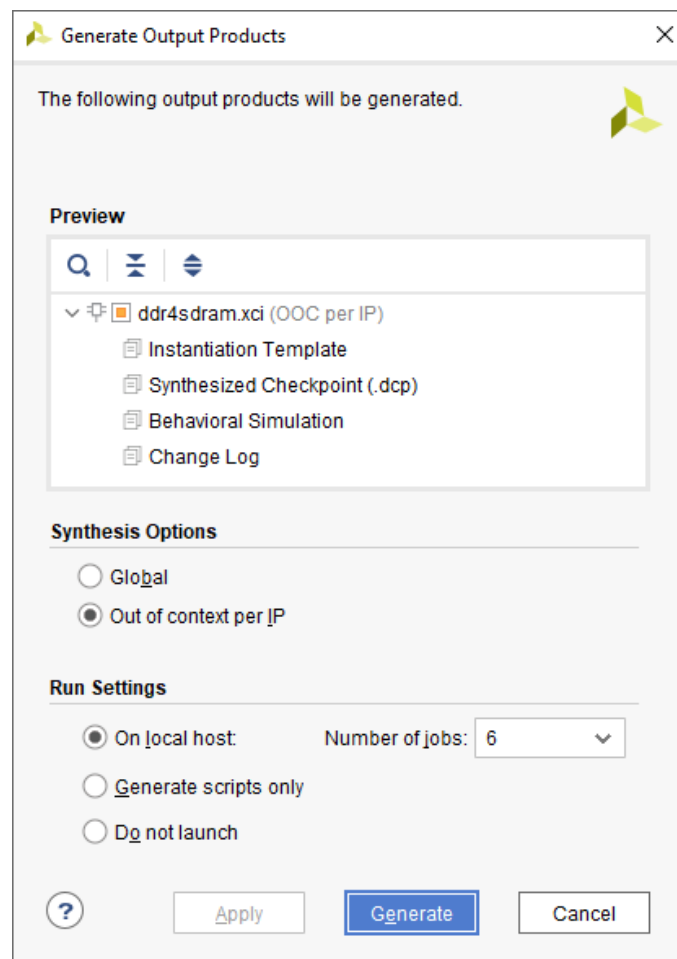

Figure 7 : Generate Output Products GUI for ddr4sdram IP
- (1) Open the project in the Vivado GUI.
- (2) In the "Sources" window, select the "IP Sources" tab. Select the "ddr4sdram" ip and right-click to select "Generate Output Products...".
- (3) A GUI box should appear which resembles the one shown in Figure 7. The list element "Behavioral Simulation" must be present.
- (4) Select the "Generate" button to generate the IP output products.